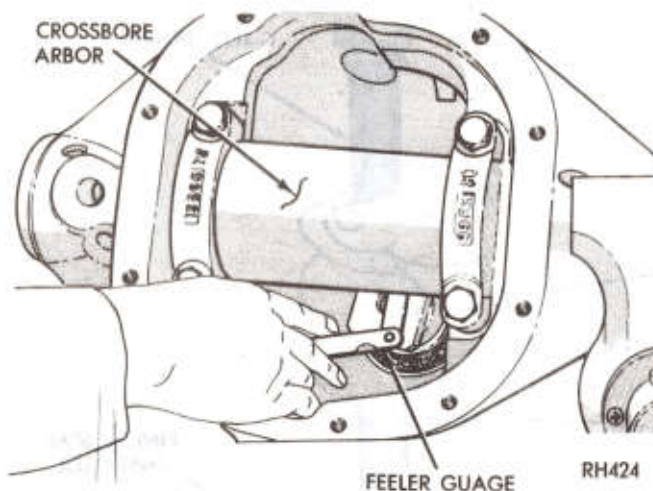

Fig. 43—Determining Shim Pack Thickness for Drive Pinion Depth of Mesh
(6) With main tool left in axle housing after installing drive pinion bearing cups, loosen tool nut and retighten nut to produce 10-30 in. lbs. (1-3 N·m) of preload. Rotate while tightening to align bearing rollers.
(7) Install gauge block SP-5260 on main tool and tighten screw with an allen wrench securely.
(8) Position cross bore arbor SP-5183 in axle housing in differential bearing seats. Center the arbor so that an approximate equal distance is maintained at both ends. Correctly position differential bearing caps and insert bolts and tighten to 10 ft. lbs. (14 N·m).
(9) Using a feeler gauge, select the proper thickness of shims that will snugly fit between arbor and gauge block. This fit must be snug but not too tight (similar to the pull of a feeler gauge). This measurement is then used in determining the correct thickness shim pack for installation behind the rear pinion bearing cup and carrier casting (Fig. 43).
(10) To select a shim pack for installation, read the markings on the end of pinion head (-0, -1, -2, +1, +2, etc.). When marking is - (minus), add that amount to the thickness of shim pack selected in step (9). When the marking is + (plus), subtract that amount. Treat other pinion markings in a similar manner. Shims are available in .003, .005, and .010 inch (.076, .127 and .254mm) thickness. See, "Pinion Setting Chart".